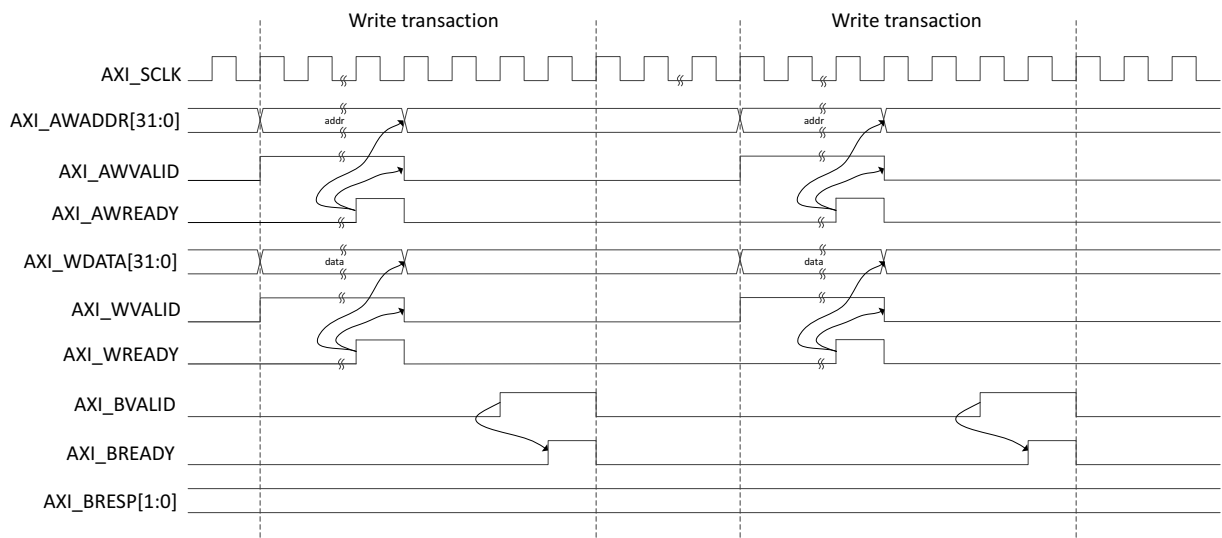
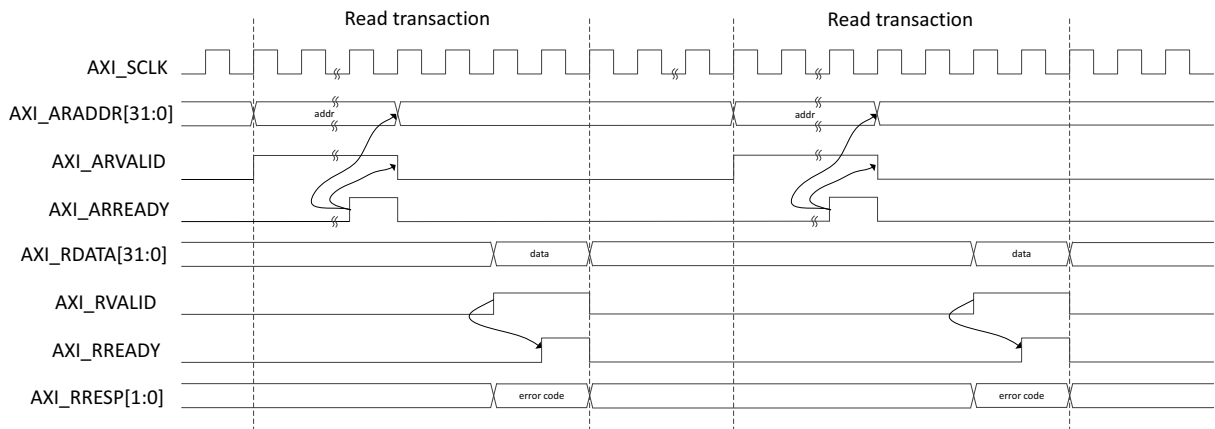

Figure 5-14: AXI4-Lite User Side Write Transaction
Figure 5-17: AXI4-Lite User Side Read Transaction with Invalid Read Address
Figure 5-14 through Figure 5-17 show timing diagram waveforms for the AXI4-Lite interface.
- Valid Write transactions (Figure 5-14)
- Invalid Read transactions (Figure 5-17)